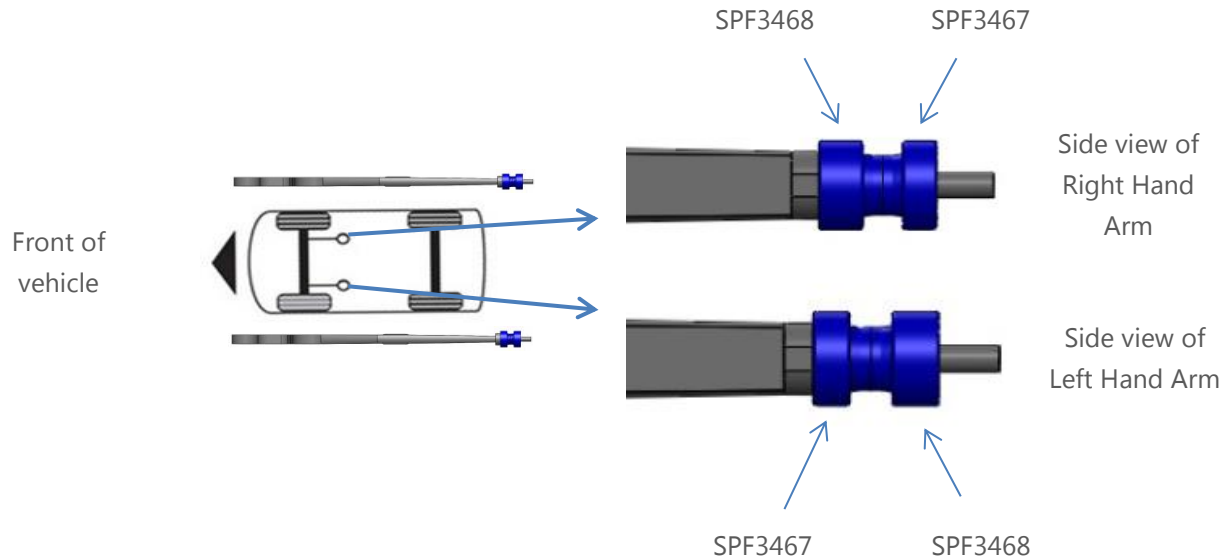

Figure 1
- using 1 x SPF3467 assemble bush onto spigot as per figure 1;
- using 1 x SPF3468 assemble bush onto spigot as per figure 1;